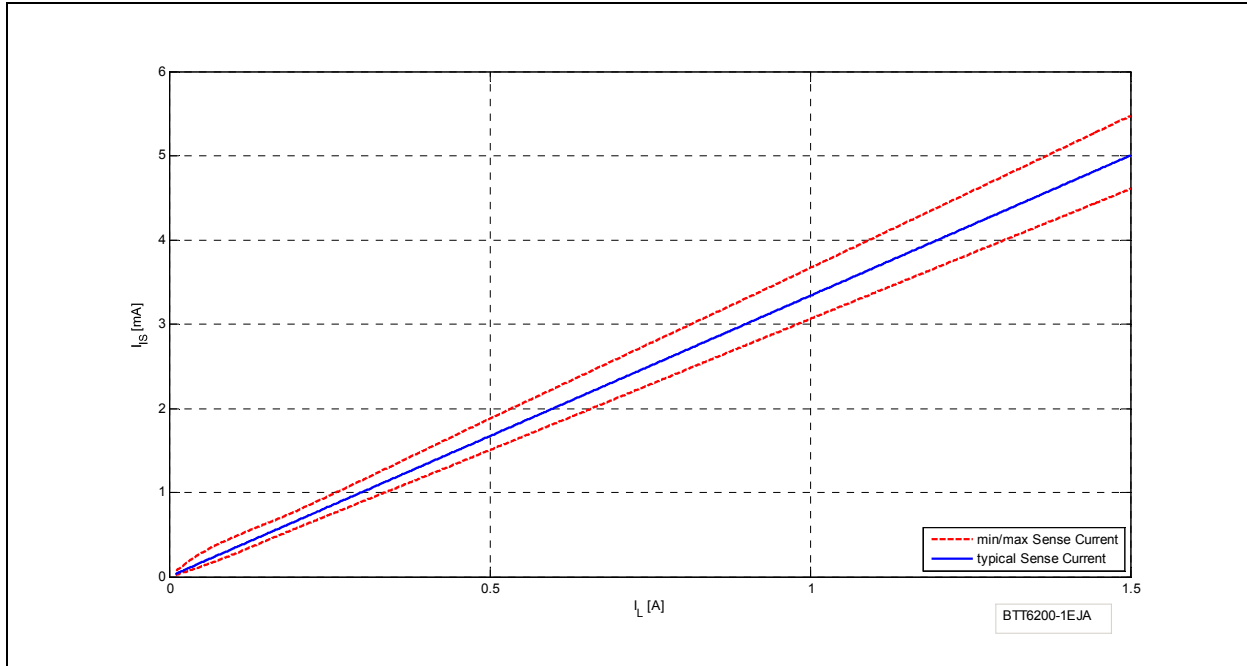

Figure 20 Current Sense for Nominal Load
**Figure 20** shows the current sense as a function of the load current in the power DMOS. Usually, a pull-down resistor  $R_{IS}$  is connected to the current sense IS pin. This resistor has to be higher than 560  $\Omega$  to limit the power losses in the sense circuitry. A typical value is 1.2 k $\Omega$ . The blue curve represents the ideal sense current, assuming an ideal  $k_{ILIS}$  factor value. The red curves shows the accuracy the device provides across full temperature range at a defined current.